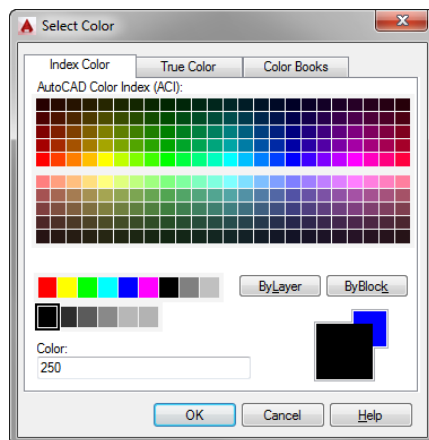

FIGURE 11.14: Selecting the gradient color
- Select color 250 in the bottom row of swatches (see Figure 11.14) and then click OK.